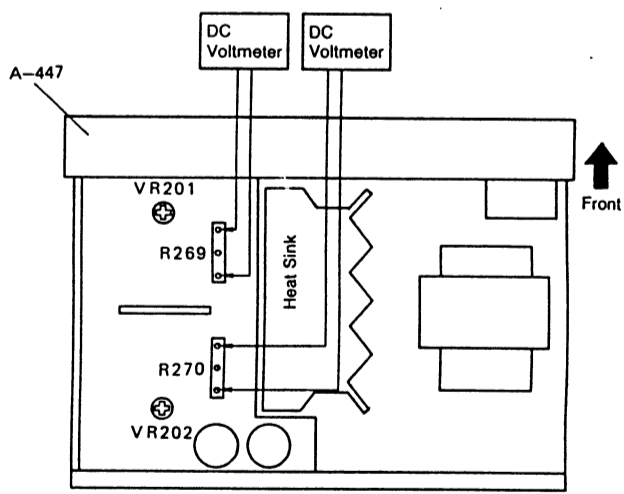

Fig. 3-1 Adjustment Drawing
- Connect wire as shown in Fig. 3-1.